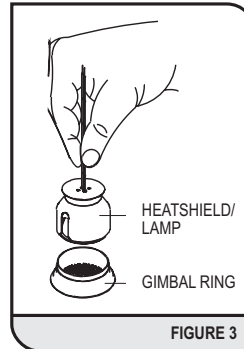

FIGURE 3
1. Remove lamp gimbal from body of fitting. Gently pull on the lamp holder leads to remove heatshield/lamp assembly from gimbal ring (fig 3).